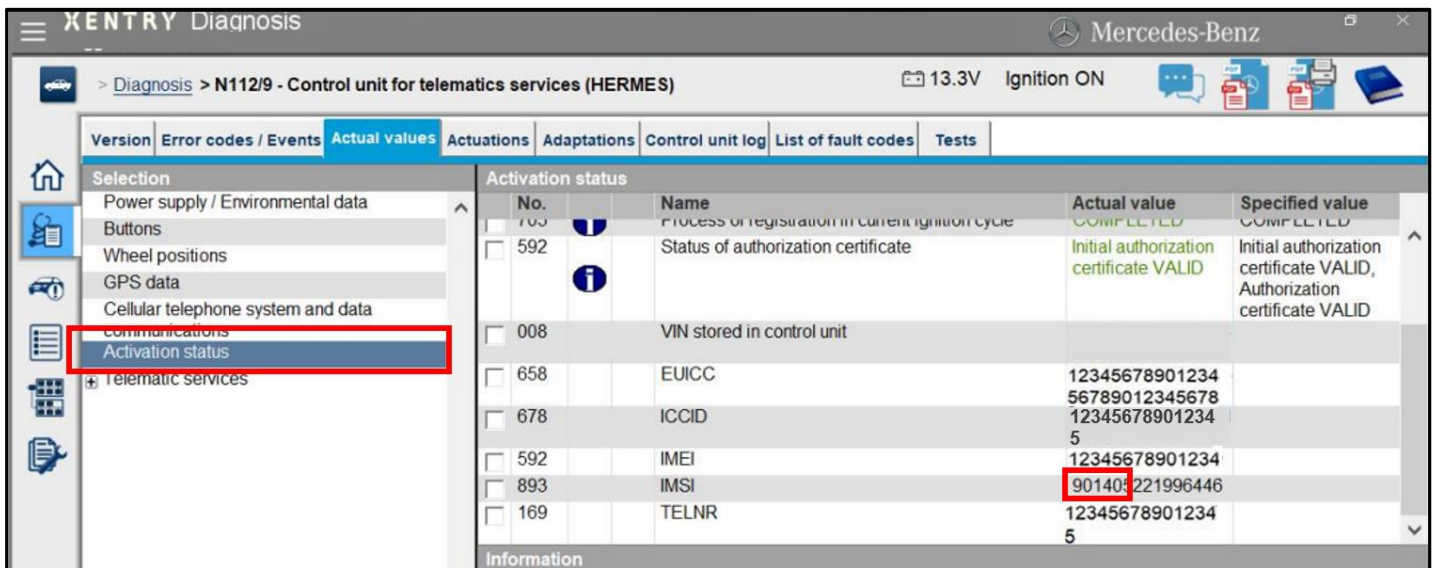

Figure 2
- If XENTRY Diagnosis "IMSI" actual value starts with "90140..." (Figure 2). **End Measure**.
2. Ensure that the vehicle has **sufficient mobile reception (Figure 2)**.